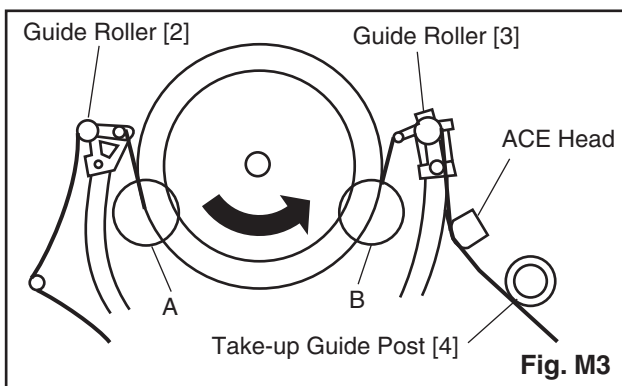
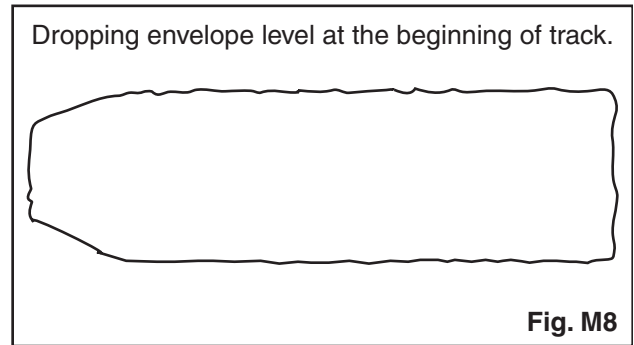
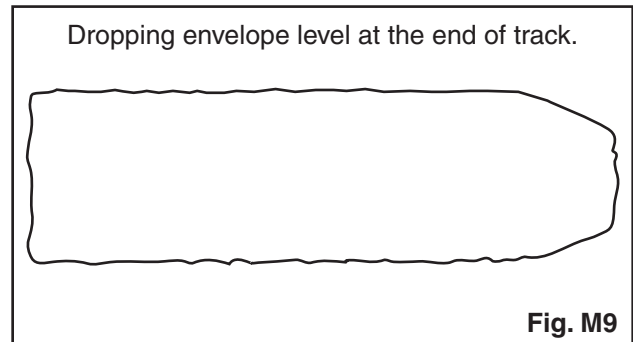
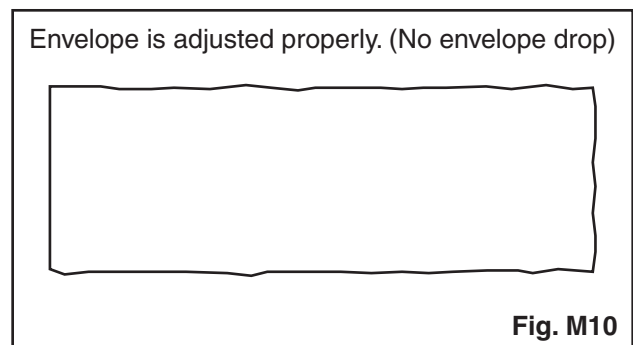

Fig. M3
Fig. M8
Fig. M9
Fig. M10
1. Playback a blank cassette tape and check to see that the tape runs without creasing at Guide Rollers [2] and [3], and at points A and B on the lead surface. (Refer to Fig. M3 and M4.)
2. If creasing is apparent, align the height of the guide rollers by turning the top of Guide Rollers [2] and [3] with a Guide Roller Adj. Screwdriver. (Refer to Fig. M3 and M5.)
3. Check to see that the tape runs without creasing at Take-up Guide Post [4] or without snaking between Guide Roller [3] and ACE Head. (Fig. M3 and M5)
- Playback the Gray Scale on the Alignment Tape (FL6NS8). Set the Tracking Control Circuit to the preset position by pressing [PROGRAM ^] button and then [▶] (VCR) button on the unit. Adjust the height of Guide Rollers [2] and [3] (Fig. M3, Page 2-3-3) watching the oscilloscope display so that the envelope becomes as flat as possible. To do this adjustment, turn the top of the Guide Roller with the Guide Roller Adj. Screwdriver.
- If the envelope is as shown in Fig. M8, adjust the height of Guide Roller [2] (Refer to Fig. M3) so that the waveform looks like the one shown in Fig. M10.
- If the envelope is as shown in Fig. M9, adjust the height of Guide Roller [3] (Refer to Fig. M3) so that the waveform looks like the one shown in Fig. M10.
- When Guide Rollers [2] and [3] (Refer to Fig. M3) are aligned properly, there is no envelope drop
either at the beginning or end of track as shown in Fig. M10.
Note: Upon completion of the adjustment of Guide Rollers [2] and [3] (Refer to Fig. M3), check the X Value by pushing the [PROGRAM ^] or [PROGRAM v] buttons on the unit alternately, to check the symmetry of the envelope. Check the number of pushes to ensure preset position. The number of pushes of the [PROGRAM ^] button on the unit to achieve 1/2 level of envelope should match the number of pushes of the [PROGRAM v] button on the unit from center. If required, redo the "X Value Alignment."